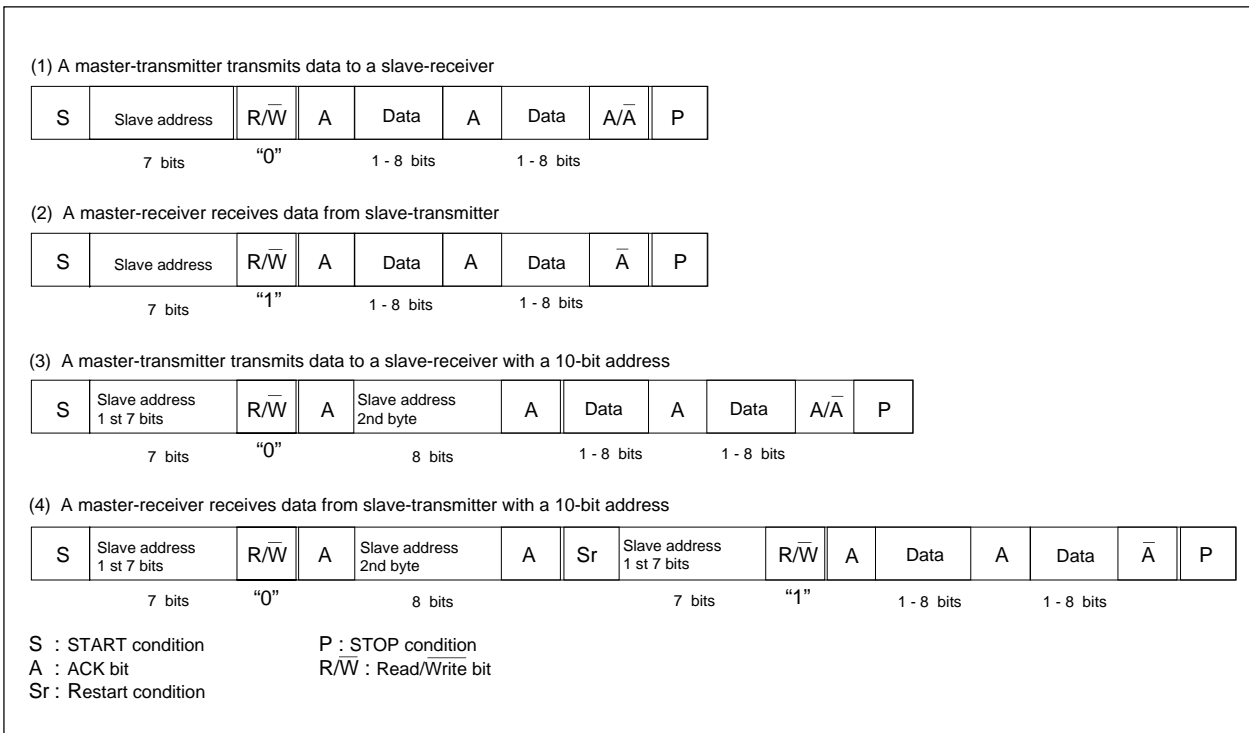

Fig.GC-21 Address data communication format
(1) 7-bit addressing format
To adapt the 7-bit addressing format, set the DBIT SAD bit of the I²C control register 0 (address 0323₁₆, 0333₁₆, 0313₁₆) to "0". The first 7-bit address data transmitted from the master is compared with the high-order 7-bit slave address stored in the I²C address register (address 0322₁₆, 0332₁₆, 0312₁₆). At the time of this comparison, address comparison of the RBW bit of the I²C address register (address 0322₁₆, 0332₁₆, 0312₁₆) is not performed. For the data transmission format when the 7-bit addressing format is selected, refer to Fig.GC-21 (1) and (2).
(2) 10-bit addressing format
When the first-byte address data agree with the slave address, the AAS bit of the I²C status register (address 0328₁₆, 0338₁₆, 0318₁₆) is set to "1". After the second-byte address data is stored into the I²C data shift register (address 320₁₆, 330₁₆, 0310₁₆), perform an address comparison between the second-byte data and the slave address by software. When the address data of the 2 bytes agree with the slave address, write "0" to the ACKBIT to I²C clock control register, to return an ACK. When the address data of the 2 bytes do not agree with the slave address, it does not return an ACK so that makes the finish of the communication by writing "1" to the ACKBIT. If the address data agree with each other, set the RBW bit of the I²C address register (address 0322₁₆, 0332₁₆, 0312₁₆) to "1" by software. This processing can make the 7-bit slave address and R/\bar{W} data agree, which are received after a RESTART condition is detected, with the value of the I²C address register (address 0322₁₆, 0332₁₆, 0312₁₆). For the data transmission format when the 10-bit addressing format is selected, refer to Fig.GC-21(3) and (4).